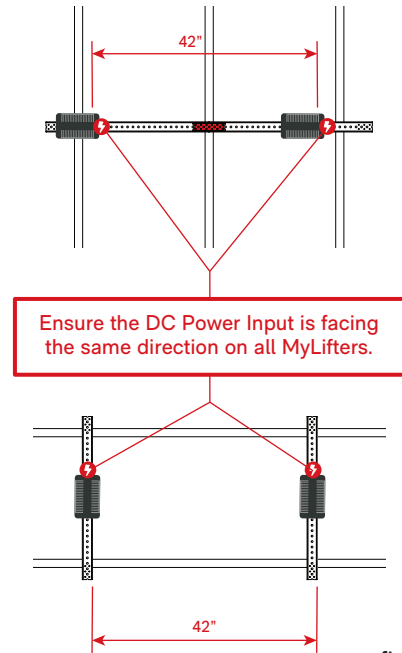

fig 3.6
14. Distance between the MyLifters on the Smart Track should match the 42" distance between the two pulleys on the Universal XL HD frame. This is key to proper MyLifter operation and ensures the cables will be as vertical as possible. Failure to follow this guideline can damage the MyLifter. (fig 3.6)
15. To install MyLifters on the Smart Track, align the holes on the MyLifter frame with the holes on the Smart Track. **NOTE: All MyLifters should be installed with the DC power input end of the MyLifter facing in the same direction.** This is imperative to ensure proper operation of the MyLifter(s). (fig 3.6)